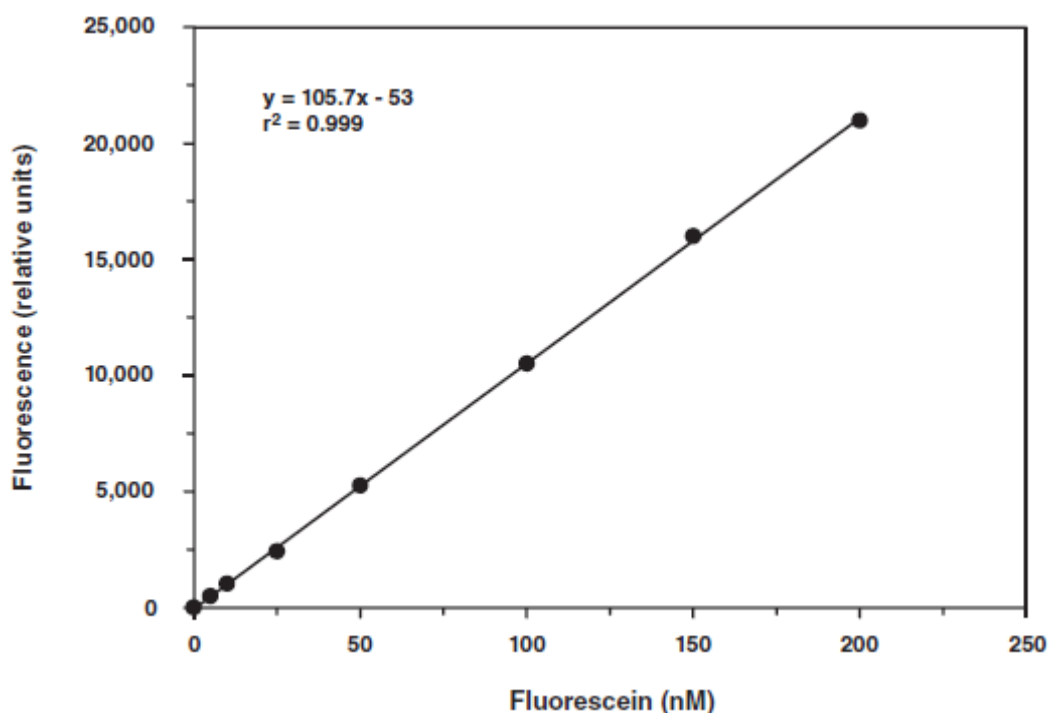

Figure 3. Fluorescein standard curve
2. Plot the corrected fluorescence values (from step 1 above) of each standard as a function of the final concentration of fluorescein from Table 1. See Figure 3, for a typical standard curve.